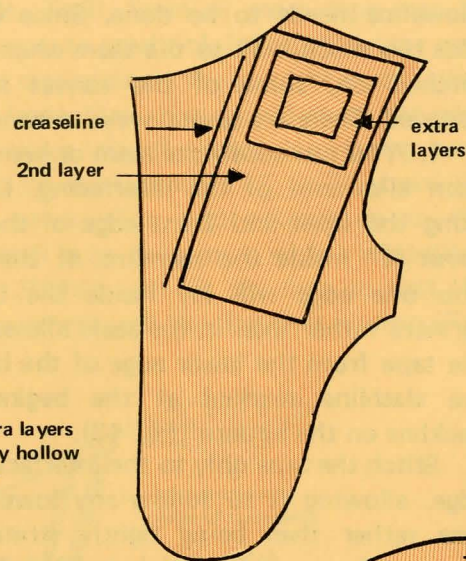

Fig. 11. Add extra layers for a very hollow shoulder
4. If the individual has a hollow chest, additional layers of interfacing may be added before the final felt layer is put on. Cut these additional layers on the bias of canvas. Take care that they are of different sizes so that edges do not lay directly on top of each other (Fig. 11).